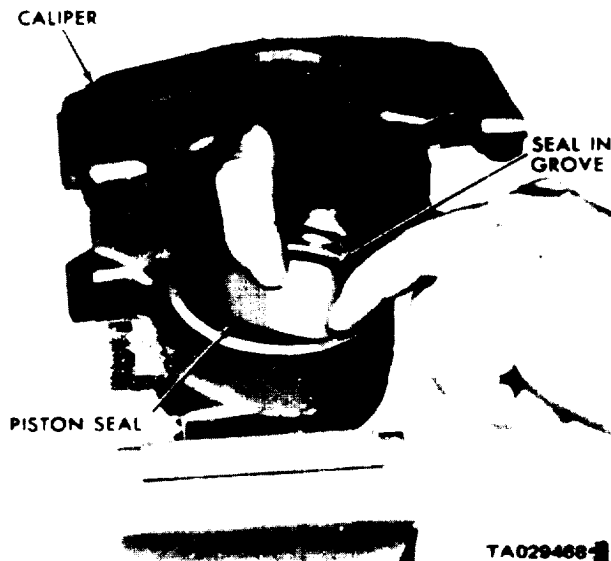

Figure 22-8. Installing Piston Seal.
- (1) Clamp the caliper in a vise with protected jaws.
- (2) Lubricate the new piston seal with clean brake fluid.
- (3) Position the seal in the groove of the cylinder bore (figure 22-8).